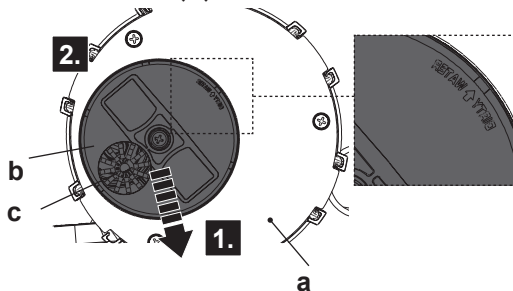

Fig.2
1. Lift the function cover (b) to make it disengaged, then turn it 180° (Fig.2) to make the clear water inlet (c) stay in the opposite position of the center (Fig.2).